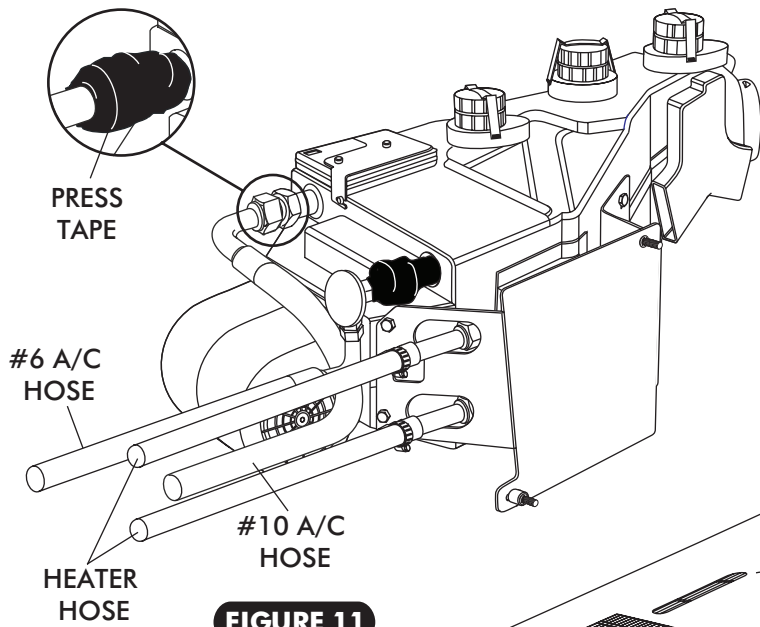
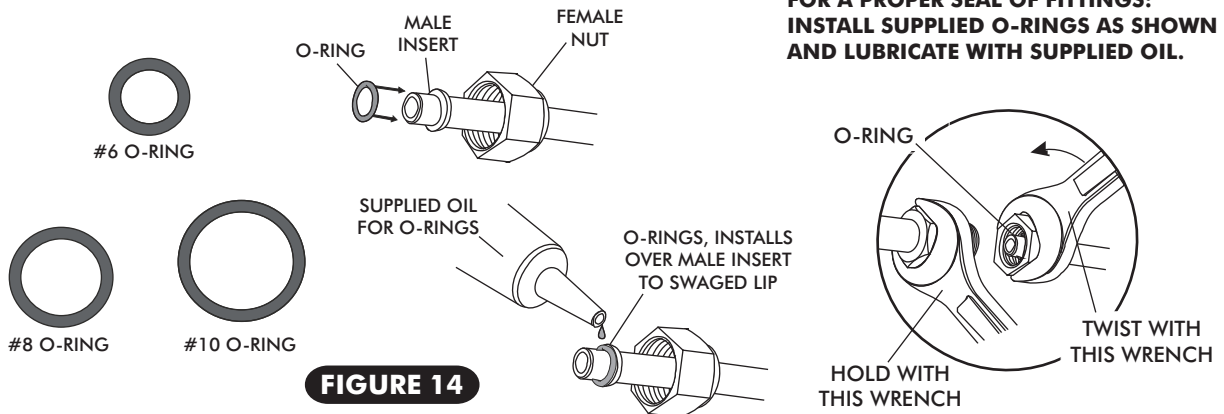
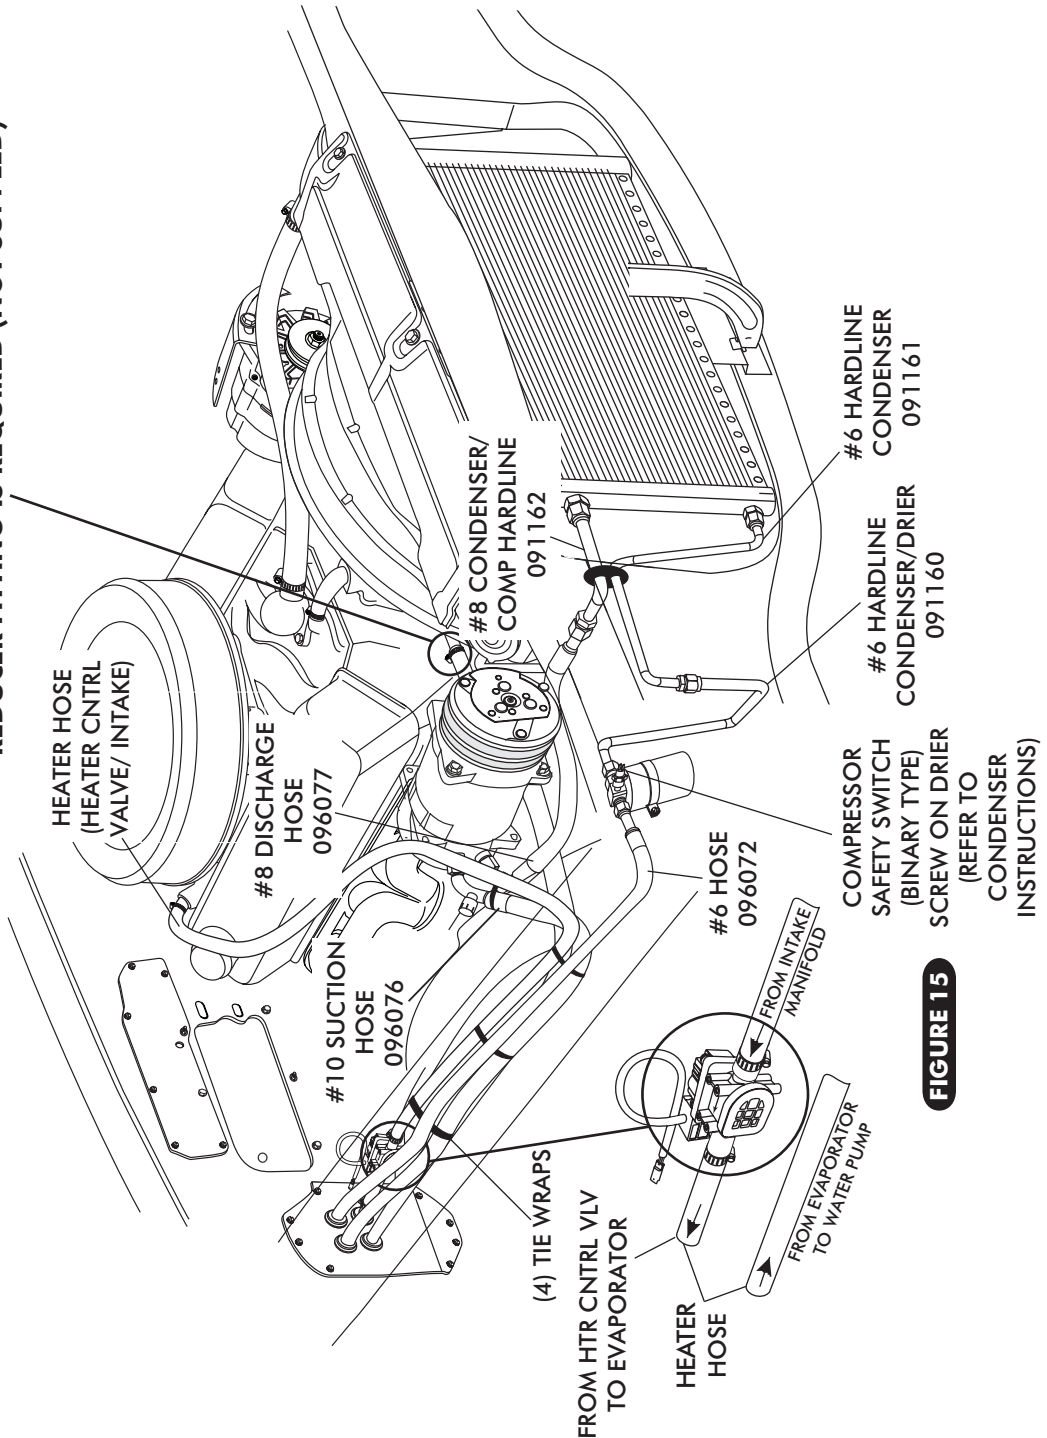

FIGURE 11
FIGURE 14
FIGURE 15
- ON A WORK BENCH INSTALL (2) HEATER FITTINGS WITH PROPERLY LUBRICATED O-RINGS. (SEE FIGURE 14, PAGE 13, AND FIGURE 8 PAGE 10.)
- LAY EVAPORATOR SUB CASE ON PASSENGER SIDE FLOOR BOARD. INSTALL A/C & HEATER HOSE ON EVAPORATOR AS SHOWN IN FIGURE 11, PAGE 12 AND HOSE INSTALLATION ON PAGE 14.
- **NOTE: WRAP THE #10 FITTING CONNECTIONS WITH PRESS TAPE. SEE FIGURE 11, PAGE 12.**
- LOCATE THE #8 COMPRESSOR A/C HOSE. LUBRICATE (2) #8 O-RINGS (SEE FIGURE 14, ABOVE) AND CONNECT THE 90° FEMALE FITTING TO THE #8 DISCHARGE PORT ON THE COMPRESSOR. ROUTE THE STRAIGHT FEMALE FITTING w/ 134a SERVICE PORT TO THE #8 CONDENSER HARDLINE COMING THROUGH CORE SUPPORT. SEE FIGURE 15 PAGE 14. TIGHTEN EACH FITTING CONNECTION AS SHOWN IN FIGURE 14 ABOVE.
- LOCATE THE #10 COMPRESSOR A/C HOSE. LUBRICATE (2) #10 O-RINGS (SEE FIGURE 14, ABOVE) AND CONNECT THE #10 135° FEMALE FITTING w/134a SERVICE PORT TO THE #10 SUCTION PORT ON THE COMPRESSOR. ROUTE THE 90° FEMALE FITTING TO THE #10 EVAPORATOR. SEE FIGURE 11 PAGE 12 AND FIGURE 15 PAGE 14. TIGHTEN EACH FITTING CONNECTION AS SHOWN IN 14 ABOVE.
- LOCATE THE #6 EVAPORATOR A/C HOSE. LUBRICATE (2) #6 O-RINGS (SEE FIGURE 14, ABOVE) AND CONNECT THE STRAIGHT FEMALE FITTING TO THE DRIER. ROUTE THE 90° FEMALE FITTING TO THE #6 EVAPORATOR. SEE FIGURE 11, PAGE 12 AND FIGURE 15 PAGE 14. TIGHTEN EACH FITTING CONNECTION AS SHOWN IN FIGURE 14, ABOVE.
- ROUTE A PIECE OF HEATER HOSE FROM THE WATER PUMP TO THE TOP HEATER FITTING OF HEATER CORE AS SHOWN IN FIGURE 11, PAGE 12 AND FIGURE 15, BELOW. SECURE USING HOSE CLAMPS.
- ROUTE A PIECE OF HEATER HOSE FROM THE INTAKE TO THE BOTTOM HEATER FITTING OF HEATER CORE AS SHOWN IN FIGURE 11, PAGE 12 AND FIGURE 15, BELOW. INSTALL HEATER CONTROL VALVE IN LINE WITH INTAKE MANIFOLD (PRESSURE SIDE) HEATER HOSE. SECURE USING HOSE CLAMPS AS SHOWN IN FIGURE 15, BELOW. **NOTE PROPER FLOW DIRECTION.**